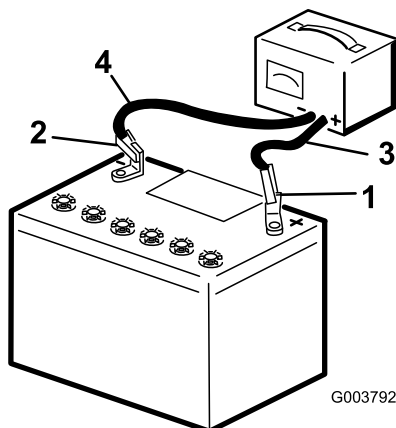

Figure 60
3. Connect the positive lead of the battery charger to the positive battery post (Figure 60).
4. Connect the negative lead of the battery charger to the negative-battery post (Figure 60).
6. When the battery is fully charged, unplug the charger from the electrical source, then disconnect the charger leads from the battery posts (Figure 60).